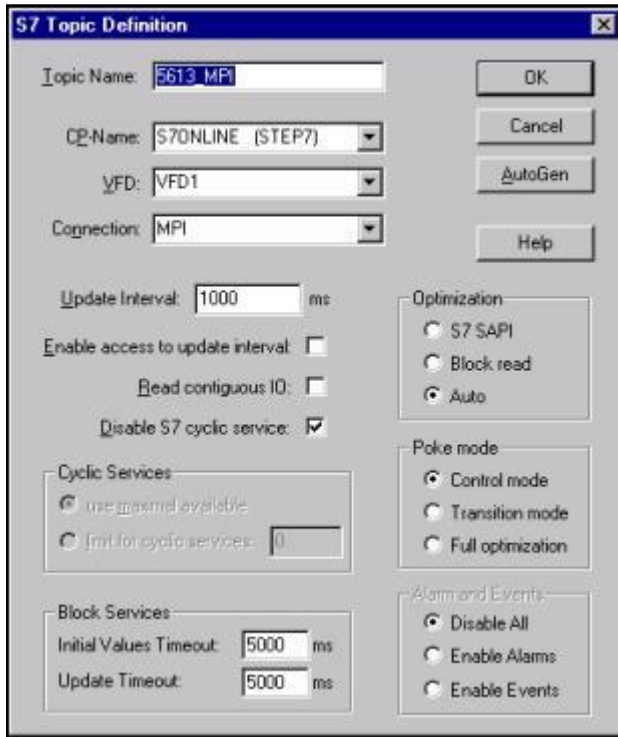

FIGURE 12: THE S7 TOPIC DEFINITION DIALOG BOX
- Figure 12 illustrates how all the fields would be filled in for a topic definition.